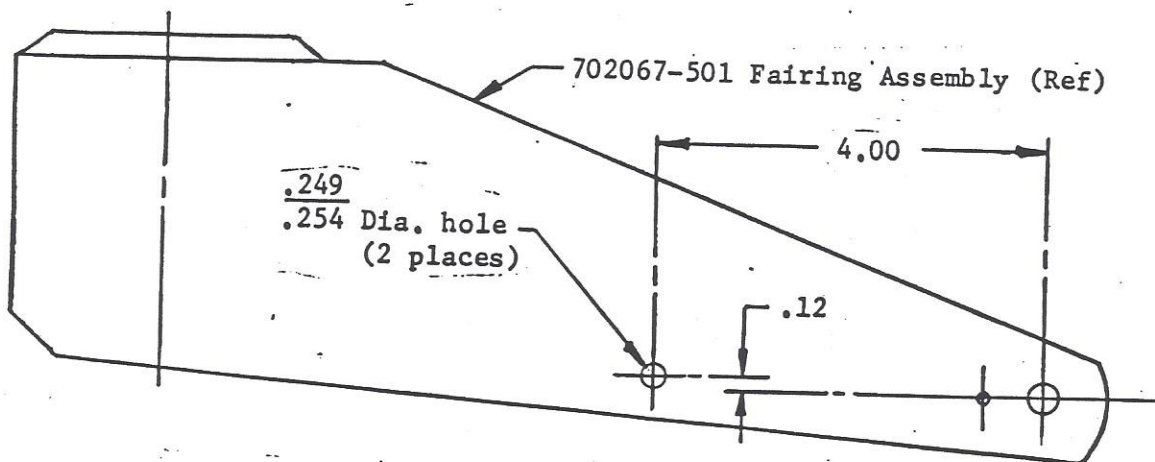

FIGURE 3. FAIRING ATTACHMENT HOLE LOCATION
NOTE: ON SOME 702067-501 FORK ASSEMBLIES IT WILL BE NECESSARY TO DRILL TWO (2) .249/.254 DIA. HOLES, AS SHOWN IN FIGURE 3, TO INSTALL THE AN4-7A FORWARD ATTACH BOLTS.